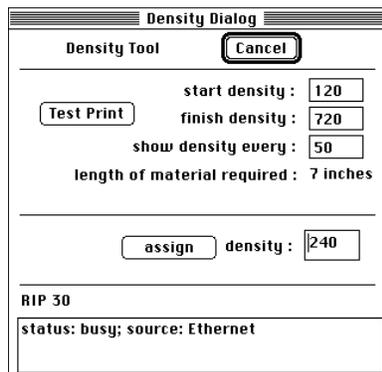

Figure 3 - Dialog box from the density portion of the Linotype Utility.
- Under *Imagesetter* select *Set Density*. The *Density Dialog* dialog box allows you to choose the range over which tests will be output as well as the frequency. For example, if you know the density setting from a previous day, you may choose to pick a narrow range around that value and to do tests in increments of ten units. See Figure 3.